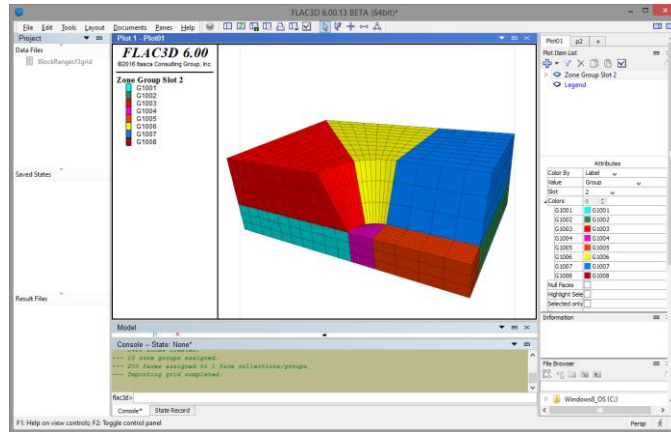

Figure 86: *FLAC3D* slot 2 groups correspond to the individual *Rhino* solids containing the hex meshes.
4. In **FLAC3D**, slot 2 groups correspond to your original solid blocks (Figure 86). That is, a zone is given a slot 2 group name according to the original solid it is contained in.